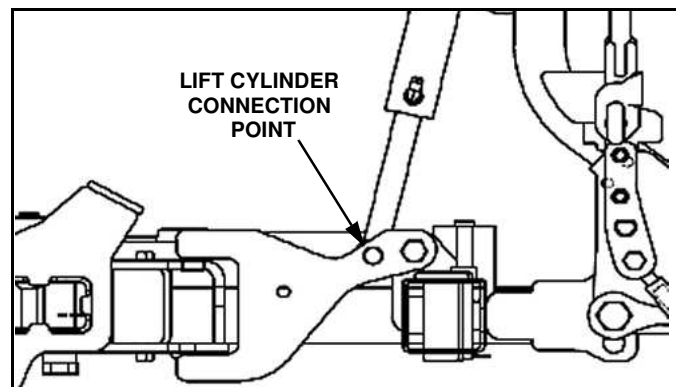

Figure 1-15
18. When the middle or bottom A-frame lug holes are used, the lift cylinder lower mounting brackets (p/n 96112622) must be used to provide a lower connection point for the lift cylinder. (See Figure 1-15).
- a. Position the mounting brackets (p/n 96112622) on the A-frame crossmember with the lift cylinder connection point positioned as shown. (See Figure 1-15).